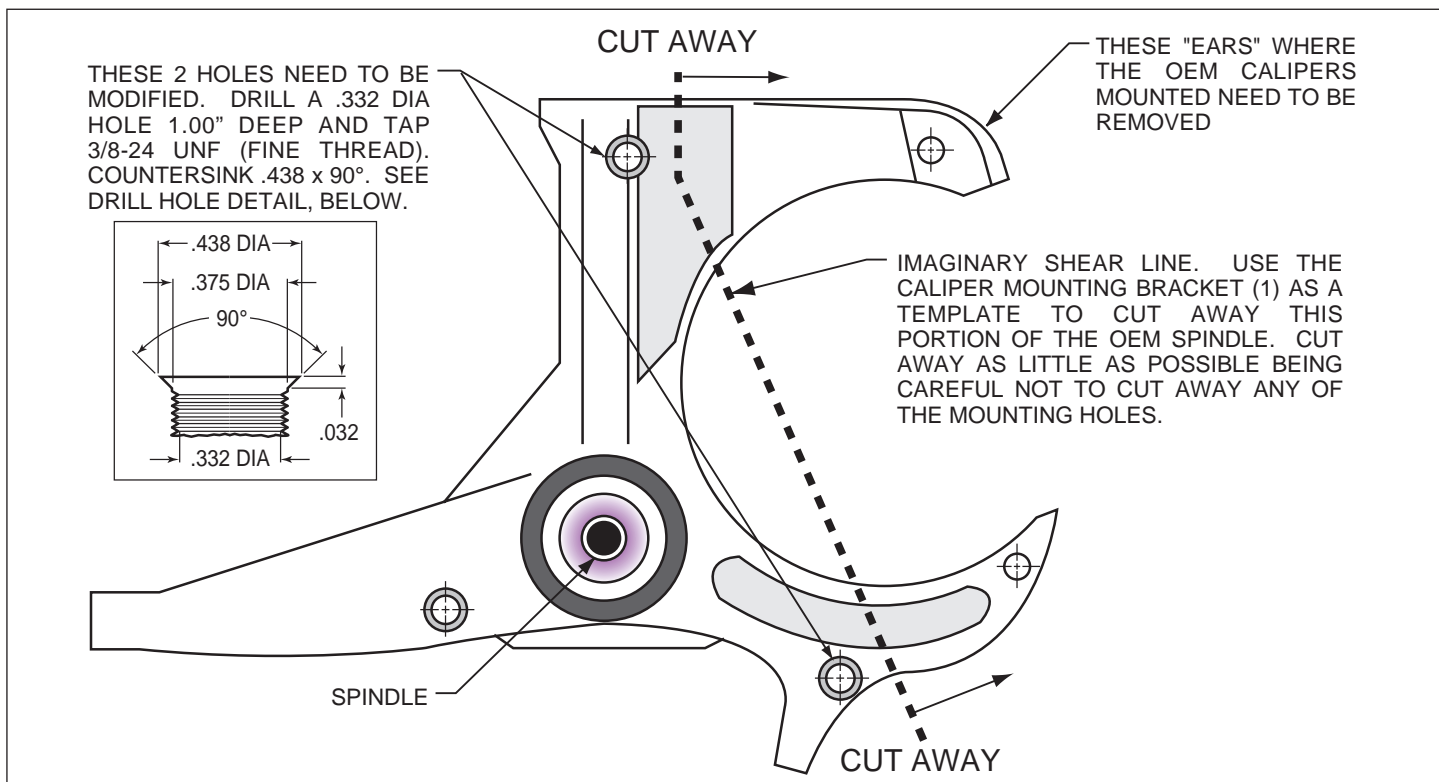

Figure 1. Steering Arm / Spindle Modifications
**NOTE:** These modifications should be performed by a qualified machinist and completed before assembly of the Wilwood disc brake kit begins. Refer to Figure 1 as necessary (numbers in parenthesis refer to the parts list). Only one view of the steering arm/spindle is shown, but the modifications need to be performed on both steering arm/spindles.
The two OEM holes that will be used to mount the caliper mounting bracket (1) need to be modified. Drill a .332 diameter hole through both holes, Figure 1, then tap 3/8-24 UNF (fine thread). Countersink the holes to .438 x 90°. The “ears” that protrude to form a “C” shape need to be removed to facilitate the installation of the Wilwood kit. Using the bracket as a template, mark two cut marks on the steering arm. Remove as little as necessary from the “C” shape, being careful not to cut away any of the mounting holes required to bolt on the bracket.